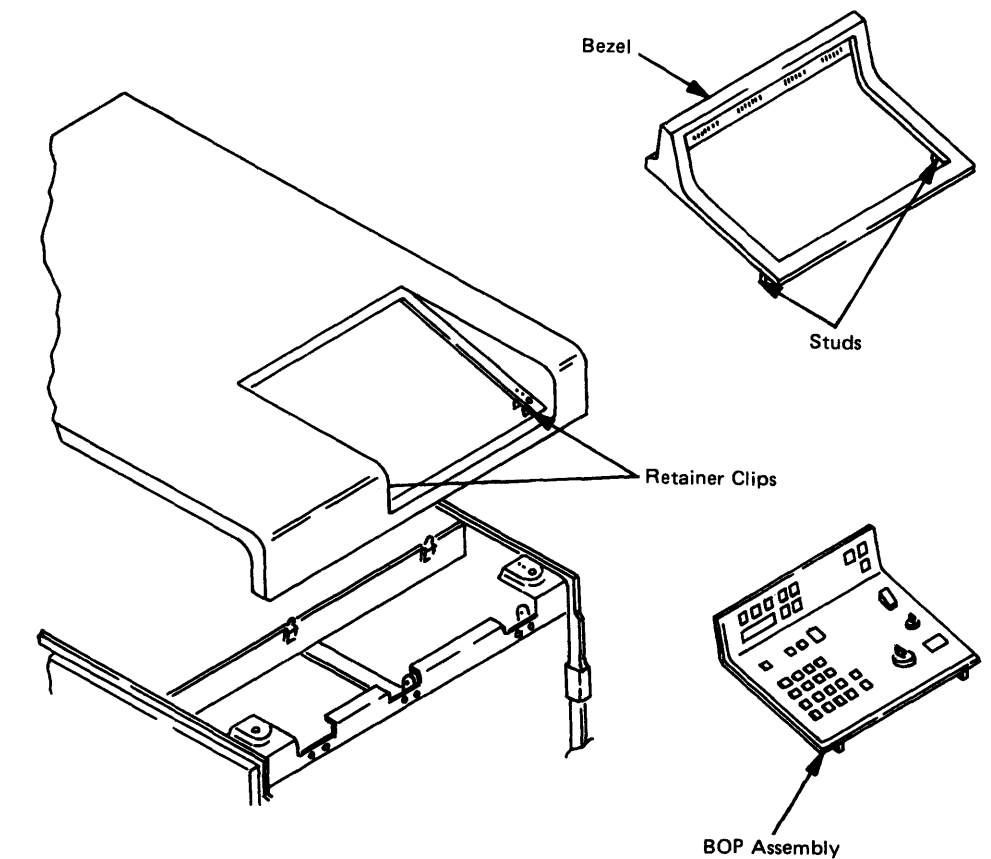

Figure PA540-1. BOP Frame Mounting
2. Open the 8130/8140 front covers and remove the bezel by sliding the two retainer clips to the rear and lifting the front edge straight up and toward the front of the unit, ensuring that the studs are clear of the retainer clips (Figure PA540-1).